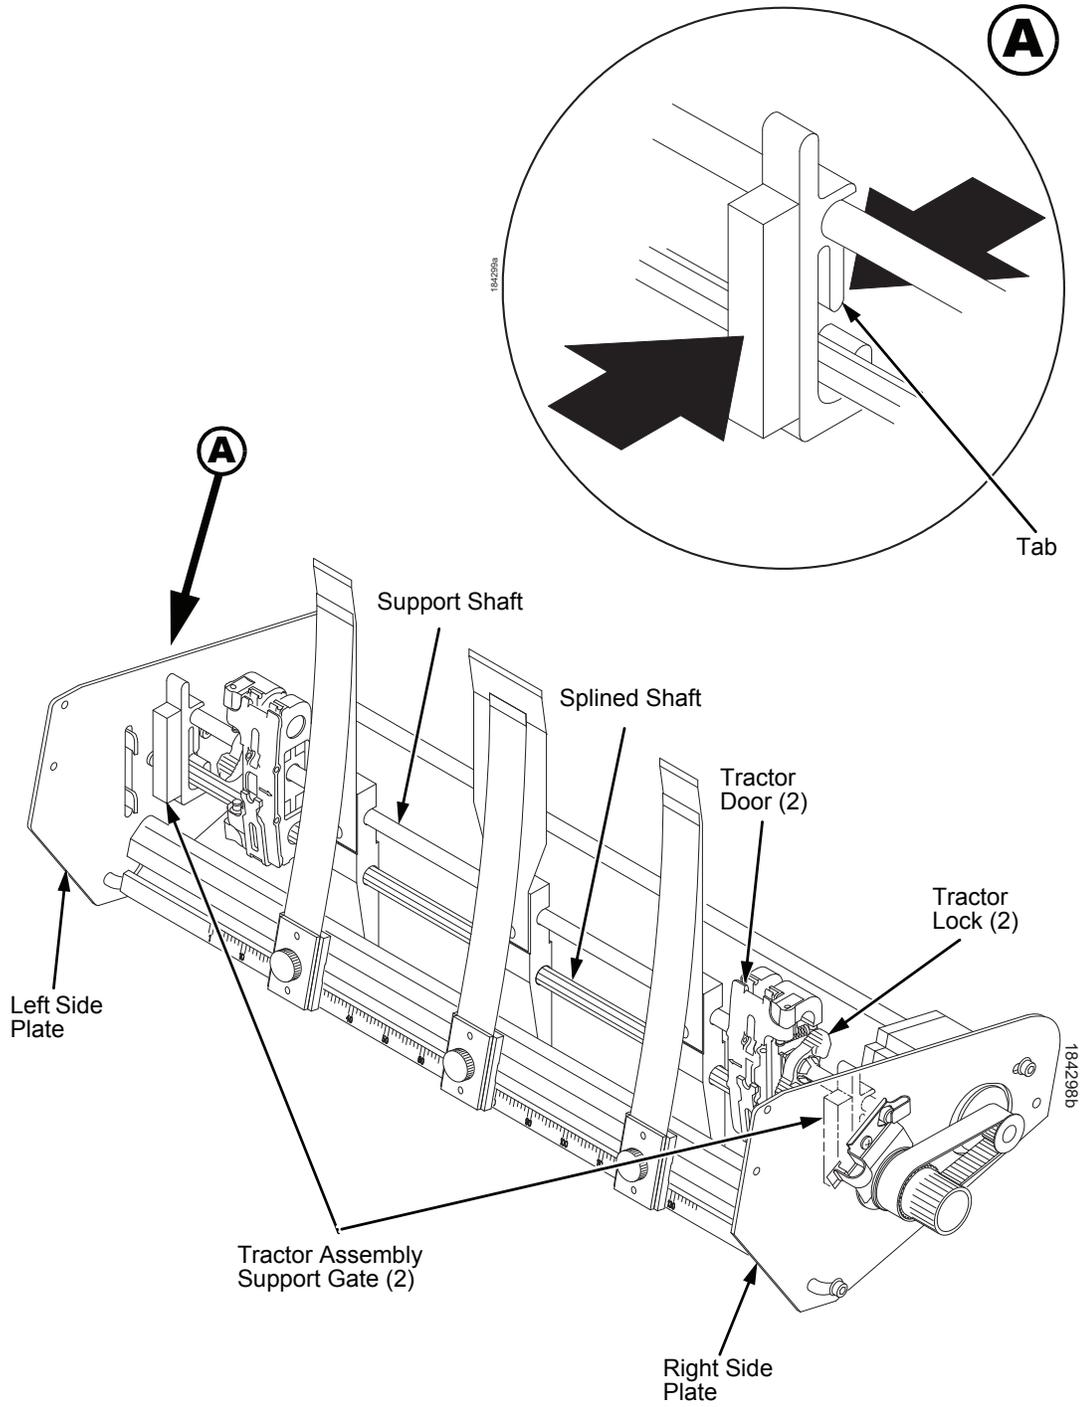

Figure 15. Removing and Installing the Tractor Assembly Support Gate
4. Squeeze the tab on the left tractor assembly support gate and remove the support gate from the splined shaft and support shaft. (See page 457, Figure 15.)